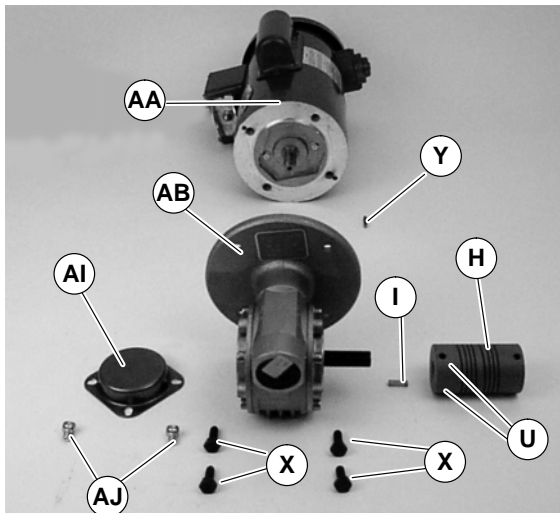

Figure 26
3. Remove four screws (X of Figure 26). Detach motor (AA) from gear reducer (AB). Retain shaft key (Y).
9. With key (Y of Figure 26) in keyway, slide motor (AA) and gear reducer (AB) together. Install screws (X) and tighten.
10. Attach coupling (H of Figure 26) to gear reducer shaft. Tighten two set screws (U) to 32 in-lb (4.7 Nm).